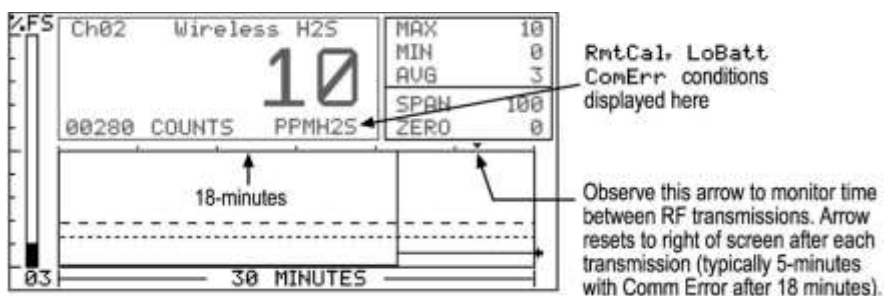

Figure 7.4
- **Communications Error** – Each channel’s 30-minute trend screens (Figure 7.4) are very useful for diagnosing wireless problems, since they indicate amount of time since the most recent transmission was received. The down arrow on top of the trend screen resets to far right each time a transmission is received by that channel. When not in alarm, OLCT 200’s transmit each 5 minutes, so the arrow should never progress past the 5-minute interval. The WX16 activates the channel’s FAULT alarm and indicates ComErr if no transmission has been received in 18 consecutive minutes.